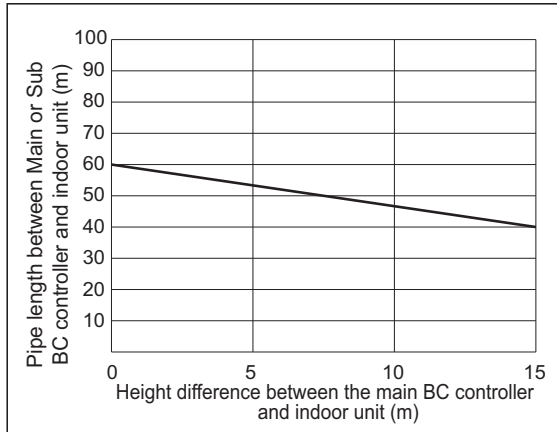

Fig. 2
*9. When the piping length or the vertical separation exceeds the limit specified in Fig. 2, connect a sub BC to the system.
When using indoor models P140 or larger, the restrictions shown in Fig. 2 cannot be exceeded.